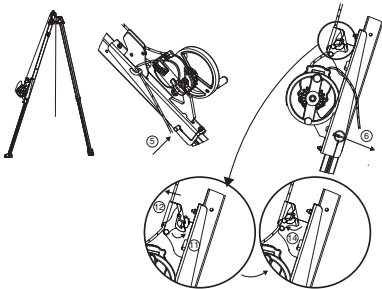

Fig. 9
IMPORTANT: Caution with respect to assembly direction: the rope blocking device must be pointing towards the top of the TRACPODE™ tripod (Fig.9).
5. Install the fastening pin for the bracket used with the DEROPE™ UP R descender. The fastening pin ensures two functions: locks the TRACPODE™ tripod leg and secures the bracket for the DEROPE™ UP R descender on the tripod leg (Fig.9, 5).
6. Lock the fastening pin using the safety pin (Fig.9, 6).
11. Open the rope blocking device on the bracket (Fig.9, 11).
12. Insert the rope coming out of the DEROPE™ descender in the rope blocking device of the bracket (Fig.9, 12).
14. Close the rope blocking device (Fig.9, 14).